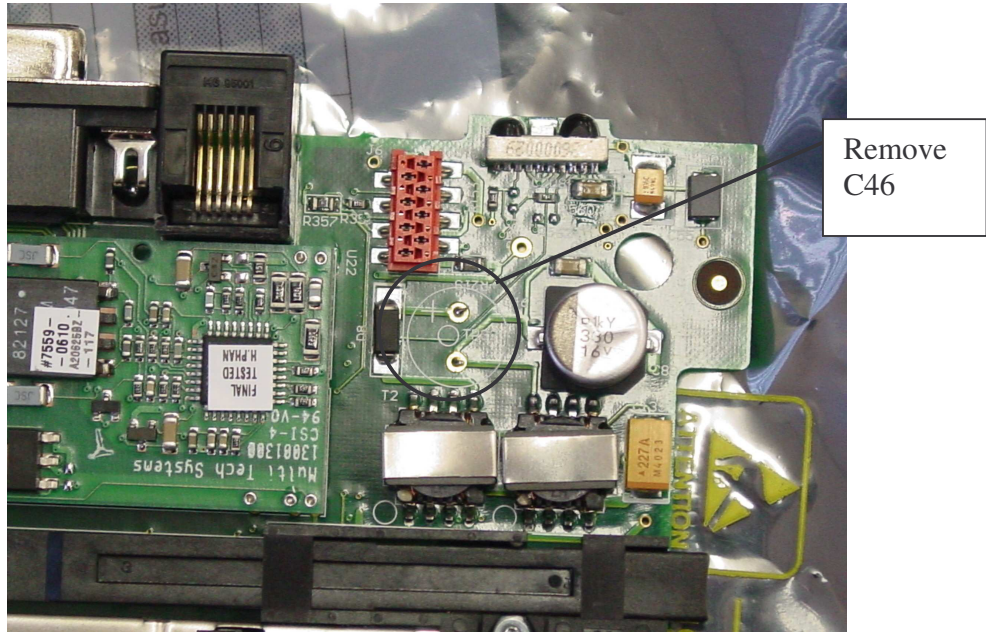

Figure 21 - Remove C46
- a) Remove Capacitor C46 as shown in Figure 21